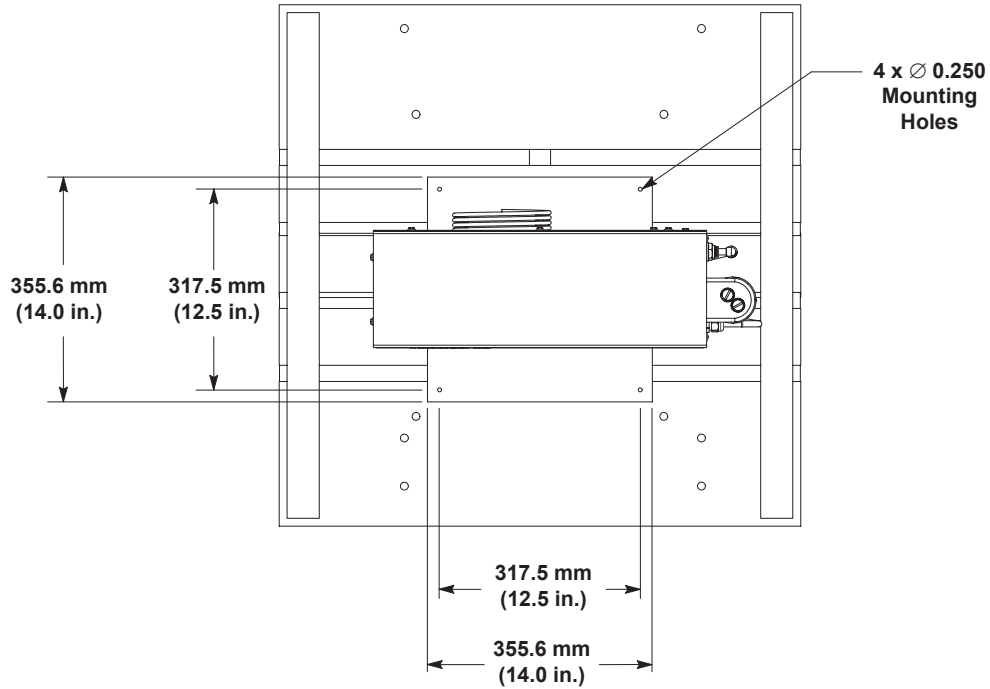

Figure 3-1 Anchoring Stand
1. See Figure 3-1. Using masonry bit, drill holes in platform or floor using the dimensions shown.